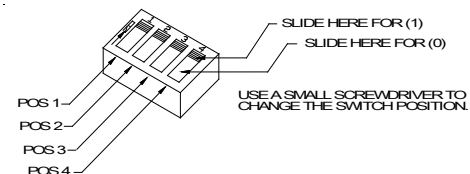

Figure 2: Switch (SW1) Settings
Set desired dBA sound output level as follows (refer to Figure 2 and Table 4).
**STEP 2:** Set desired alarm tone as follows (refer to Figure 2 and Table 5).
MT4-115WH Multitone Signals are field set for any one of eight alarm tones by setting a four-position switch (SW1) as shown in Figure 2 and Table 5. Use SW1 POS 2, 3, 4 to select the desired alarm tone (refer to Table below).